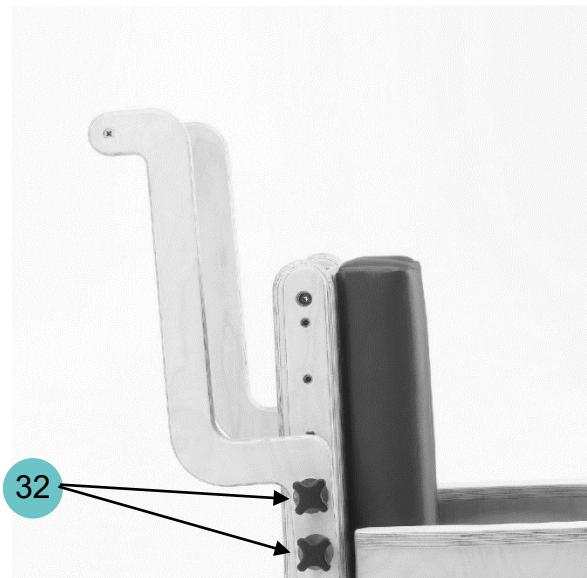

Figure 29
- To adjust the height of the push handle, loosen and remove the handwheels (Ref. 32 of Figure 29) on the side of the chair.